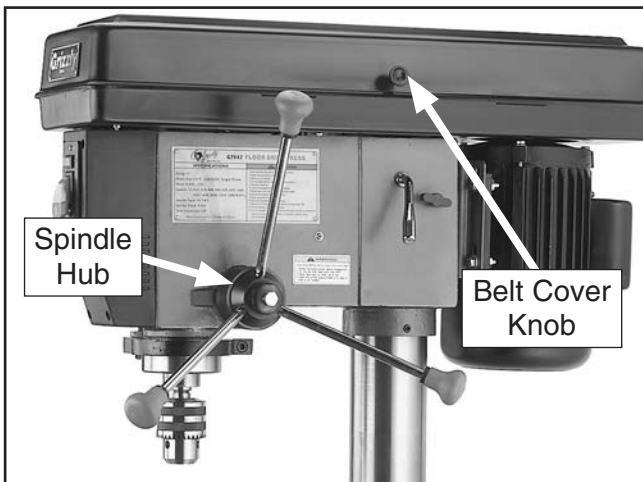

Figure 24. Downfeed handles and belt cover knob installed.
- Thread handles into spindle hub, as shown in **Figure 24**, and tighten.
- Remove screw that fastens belt cover in place and replace with belt cover knob (see **Figure 24** for location).